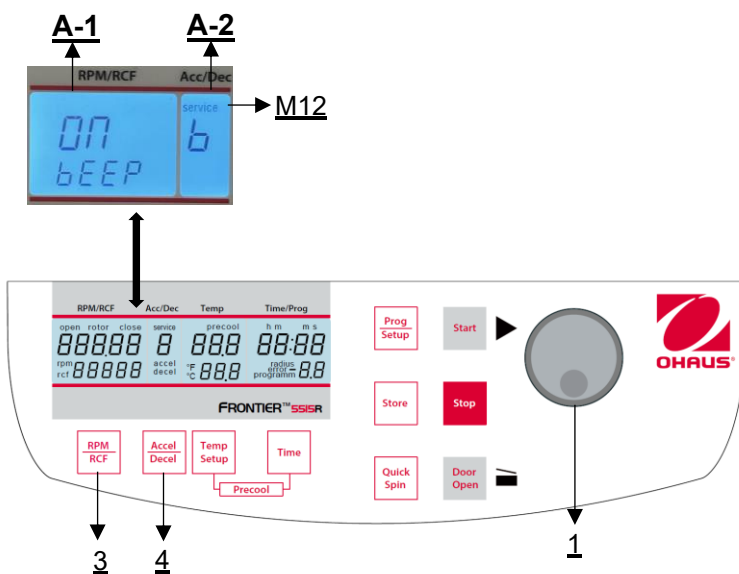

Figure 34
Proceed as described under point 4.1.1 to enter this program mode and then press the key "**Accel/Decel**" (4). In the display "**Acc/Dec**" (A-2) the word "**Service**" (M12) flashes. Now select the letter "**b**" with the adjusting knob (1). As a result, in the display "**RPM | RCF**" (A-1), the word "**ON/BEEP**" appears. After pressing the key "**RPM | RCF**" (3), you can turn the keyboard sound (On) or (Off) with the adjusting knob (1) (see **figure 34**).